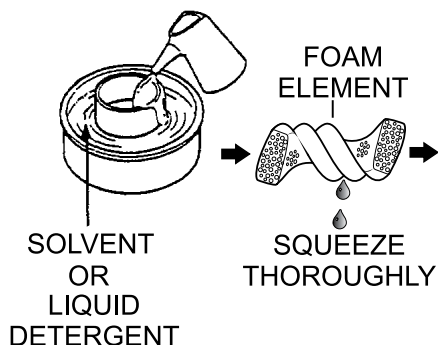

Figure 29. Cleaning Foam Element
- Clean the foam air filter (Figure 29) element in warm, soapy water, rinse and allow to dry thoroughly, or clean with a nonflammable solvent and allow to dry. **DO NOT** pour any type of oil into the foam element.